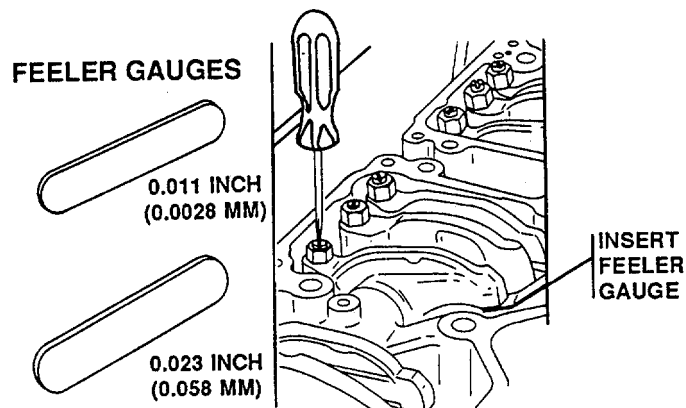

FIGURE 2-37. Checking Valve Lash (Feeler Method).
- (c) Insert the feeler gauge between the top of the crosshead and the rocker lever pad (Figure 2-37).